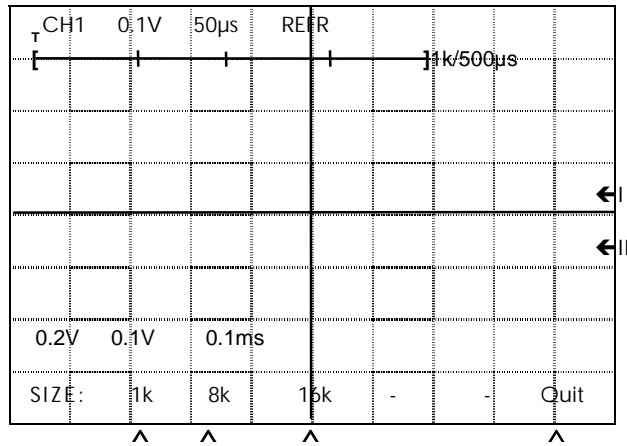

Figure 12 : SIZE
By pressing on key 41, the SIZE sub-menu appears (figure 12) :